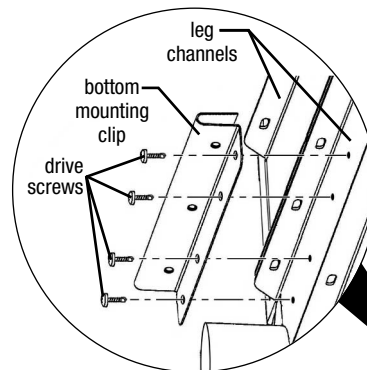

figure 1
- With the #8-18x1/2" drive screws provided, affix the bottom mounting clip to the leg channels (*figure 1*).